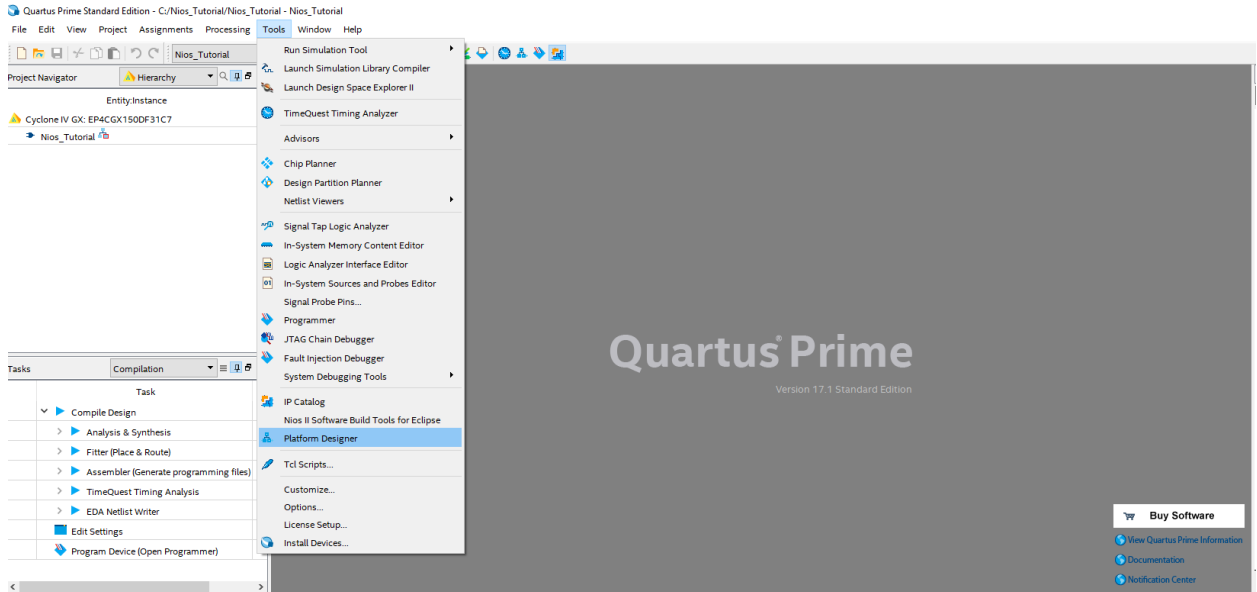

Figure 1-5 Opening Platform Designer for creating system.
- 4.) Now we will create our system with the Platform Designer tool (Formally known as Qsys). To do this choose **Tools → Platform Designer** as shown in figure 1-5. Platform Designer already creates a new system for you, but you can start a new system manually if you want. Choose **File → New System** to do that.